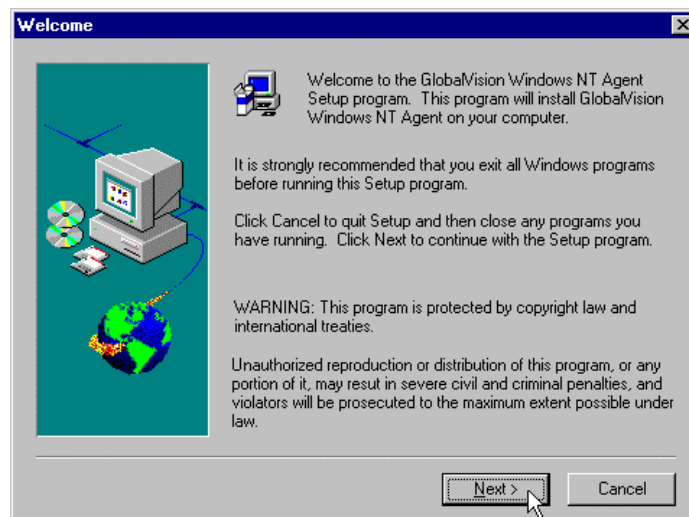

Figure 34 – Welcome dialog box
6. A standard **INSTALLSHIELD® WIZARD WELCOME** dialog box appears next. This gives copyright information and a warning to exit all programs while installing the **GLOBALVISION AGENT**. Click **Next>** to continue. See Figure 34.